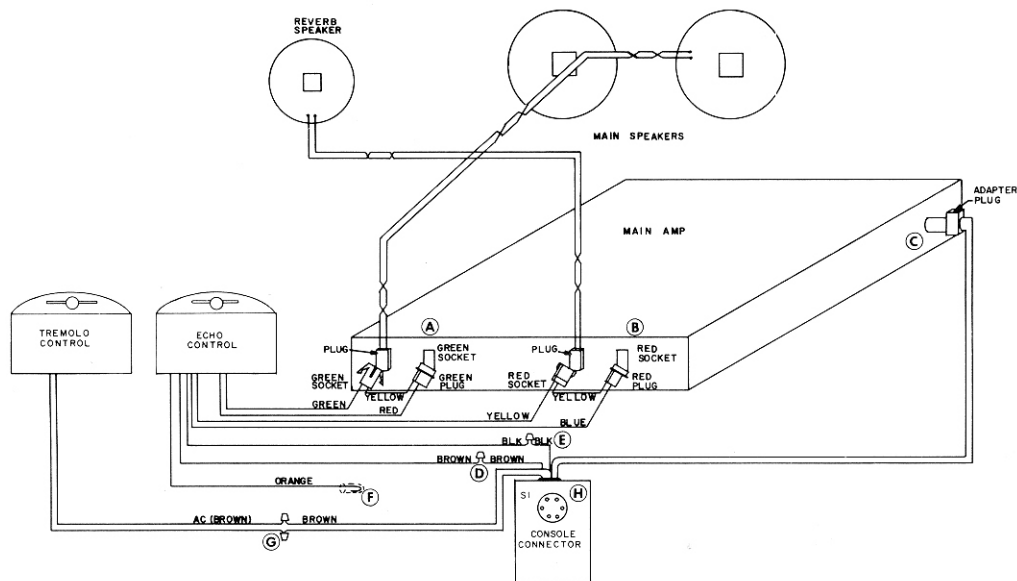

Figure 3. El100 Connections
5. Remove the green speaker plug from the chassis socket on the left-hand apron of the power amplifier. (A on figure 3) Fit this plug into the green interceptor socket on the echo switch cable, and fit the interceptor plug into the chassis socket.
6. Remove the red speaker plug from the chassis socket on the left apron of the power amplifier. (B on figure 3) Fit this plug into the red interceptor socket on the echo switch cable; then connect the red interceptor plug to the red chassis socket. Fold back the orange wire attached to the echo switch and insulate it with electrical tape. It is not used in this installation.
7. Connect the plug from the console connector to the 062091 adapter and insert the adapter into the 7-contact socket on the rear apron of the amplifier chassis. (C on figure 3)